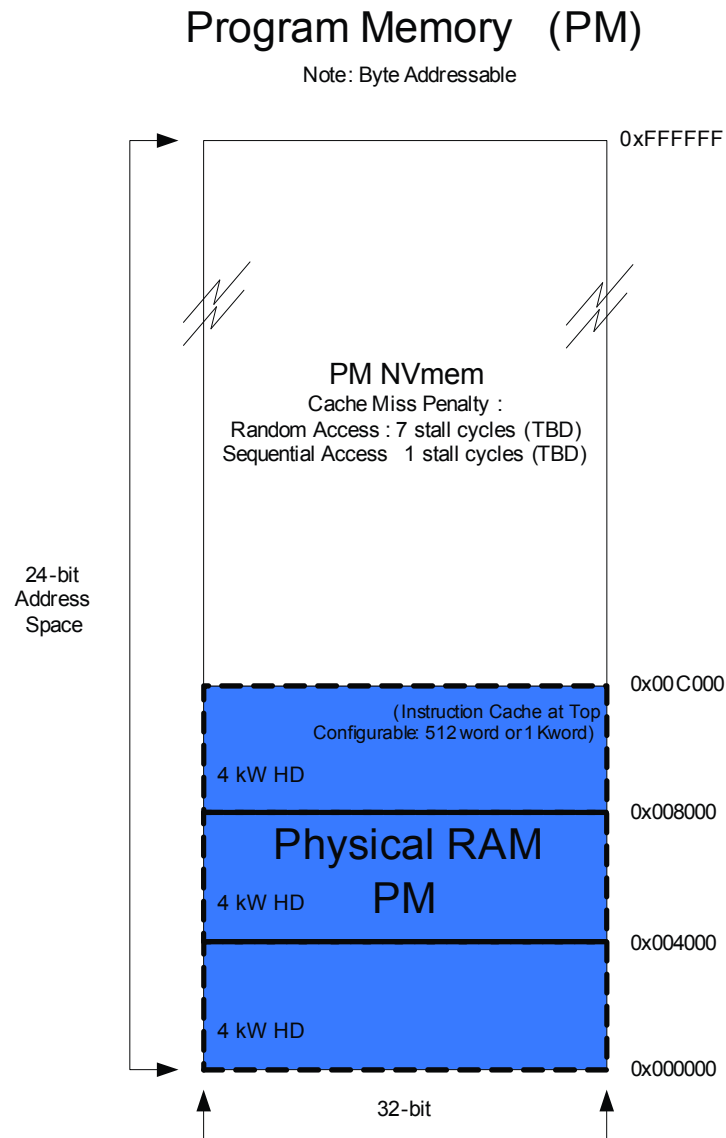
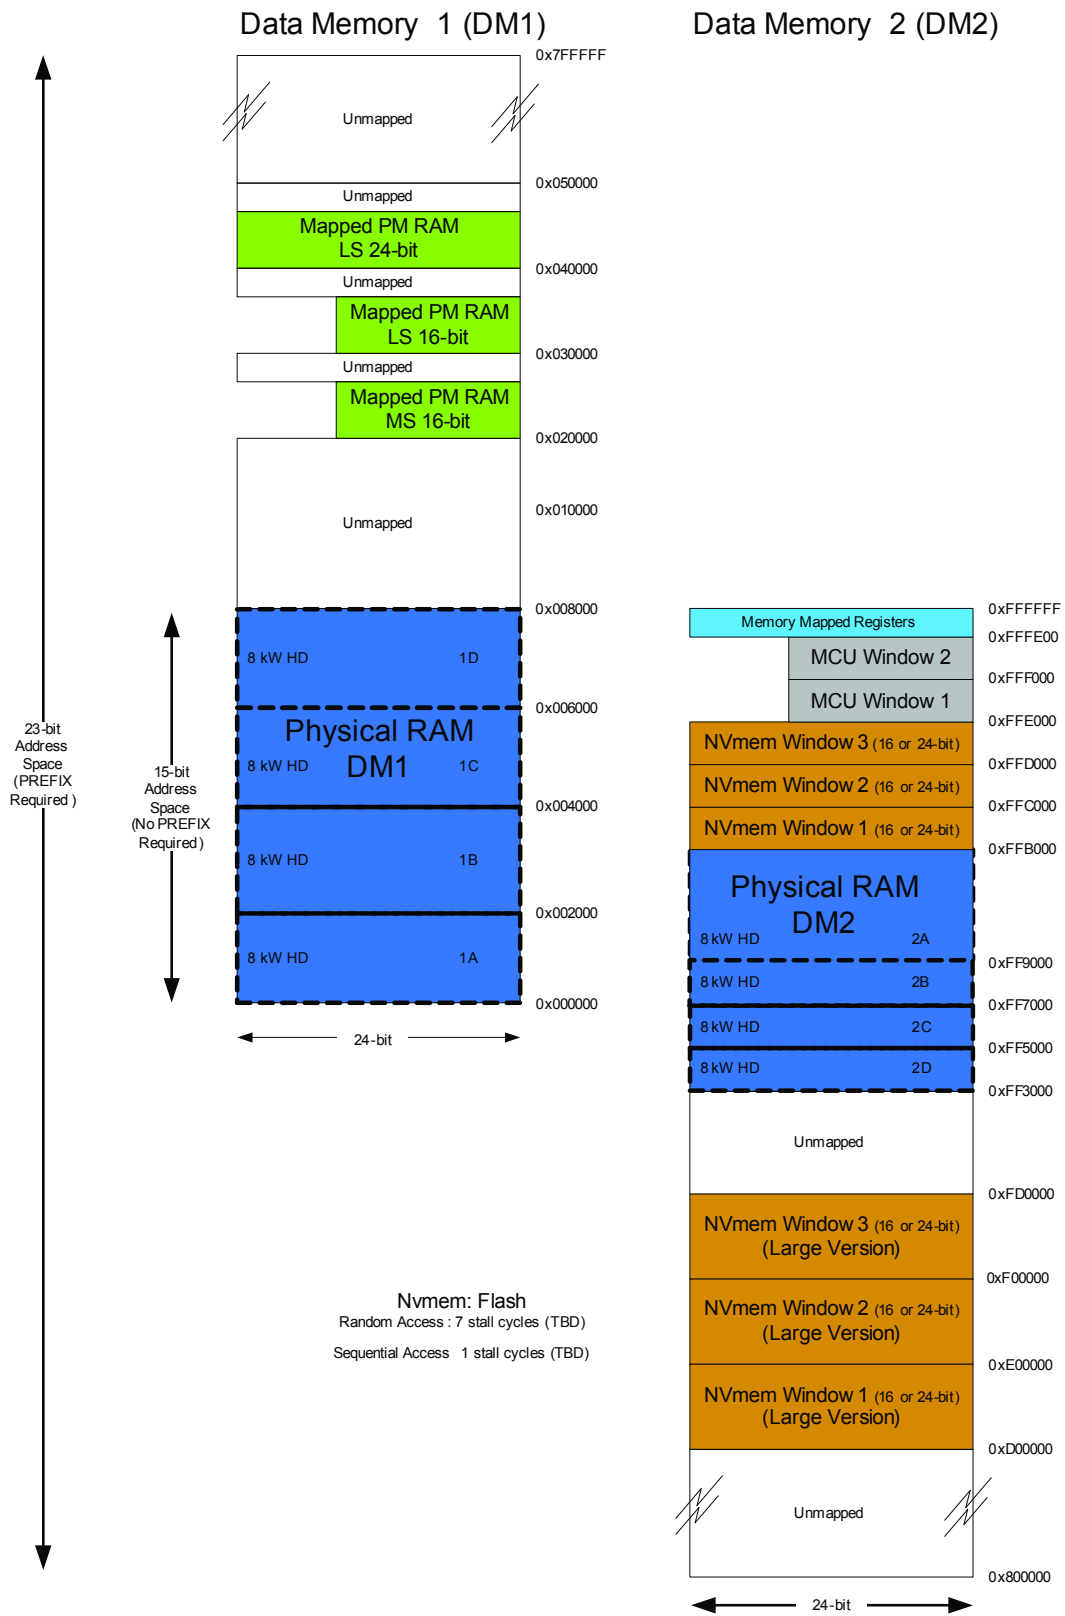

Figure 5.1: Program Memory Organisation for CSR8675
Figure 5.2: Data Memory Organisation for CSR8675
- A single 32-bit program memory, PM, with a 24-bit address space, see Figure 5.1
- 2 24-bit data memory banks, DM1 and DM2, each with a 23-bit address space, see Figure 5.2
Figure 5.2 shows the Kalimba DSP memory organisation with size information and peripheral memory mapping.
The memory organisation in Figure 5.1 and Figure 5.2 breaks down into individual memory maps described in Table 5.1, Table 5.2 and Table 5.3. The tables show the DSP memory layout for CSR devices containing Kalimba Architecture 5, using CSR8675 as an example.